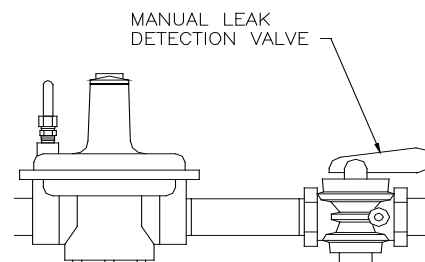

Figure 5.4
3. Close the manual leak detection valve located between the safety shut-off valve and the differential regulator (see Fig. 5.4).